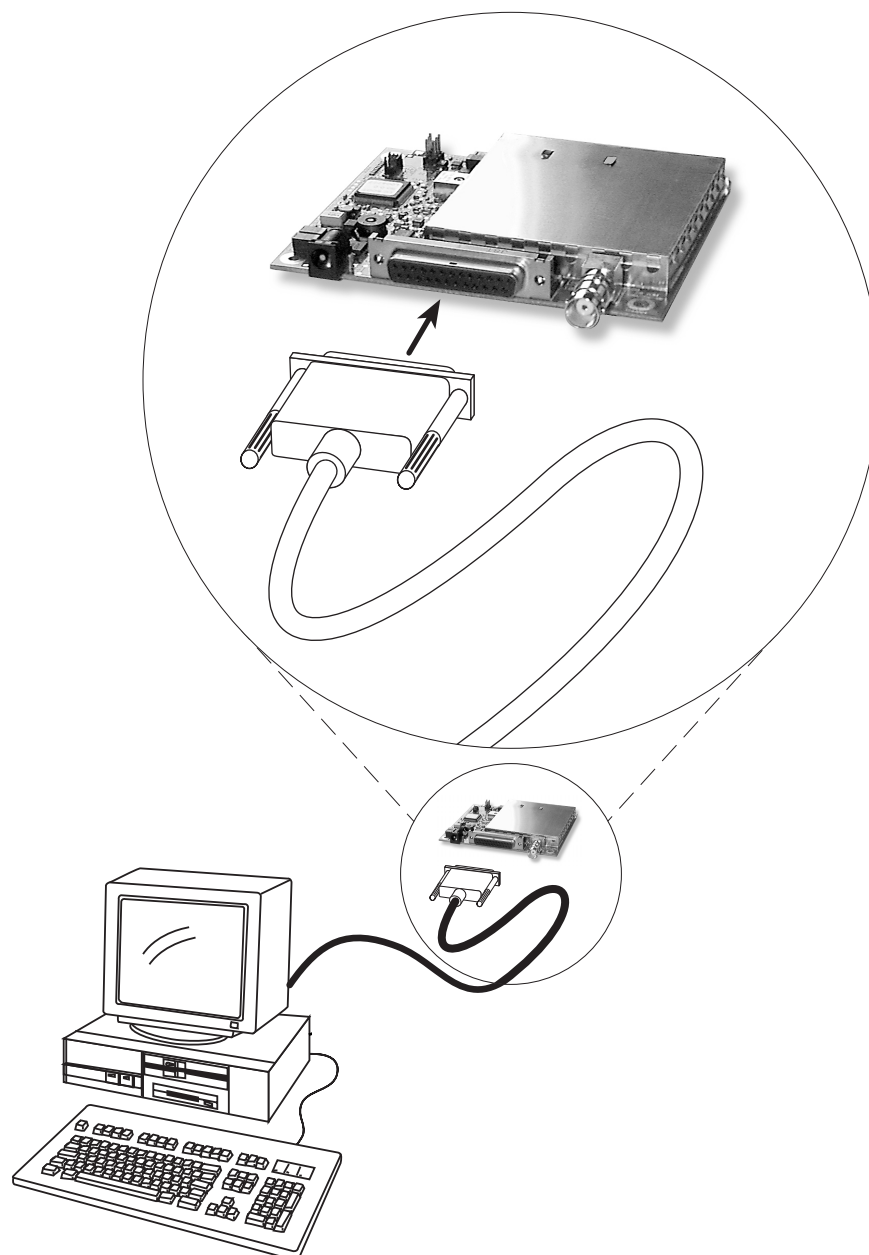
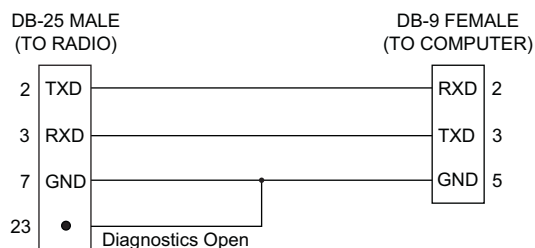

Figure 11. Terminal Interface (PC) Connected to the Transceiver
Figure 12. DB-25 to DB-9 Adapter Cable
1. Connect a PC to the radio's DATA INTERFACE port as shown in Figure 11. Pin 23 of the interface cable must be grounded to activate the control and programming mode. This can be done with a Programming Adapter (MDS P/N 01-3683A01), or with a scratch-built cable as shown in Figure 12.
(Pin 23 on cable must be grounded—see *Figure 12*)